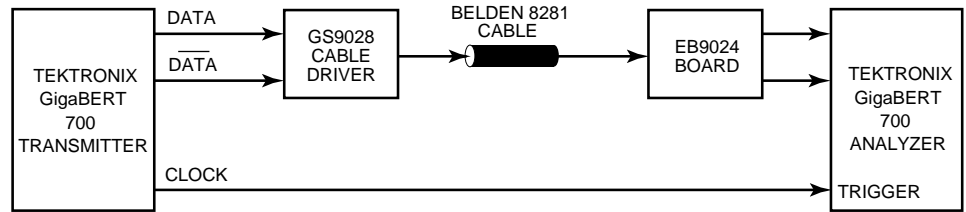

Figure 2-1: Test Setup for Figure 4-1.
- Evaluated using test setup Figure 2-1.